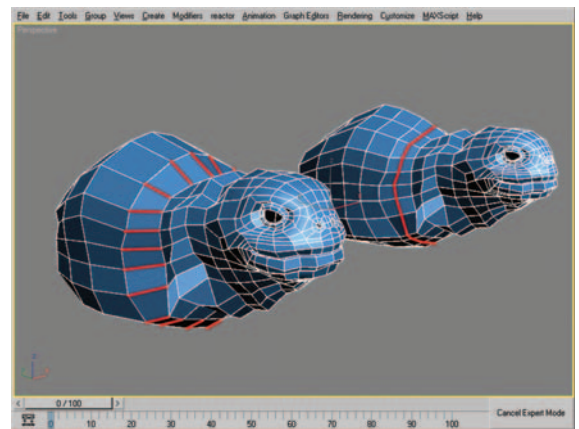

Figure 9.41 Edge-ring selection and resulting edge loop after using Connect.
2. Select the edge ring shown in Figure 9.41 (left) and use Connect to create a new edge loop (Figure 9.41, right). This new geometry will be used to create the area where the front legs branch off of the body.